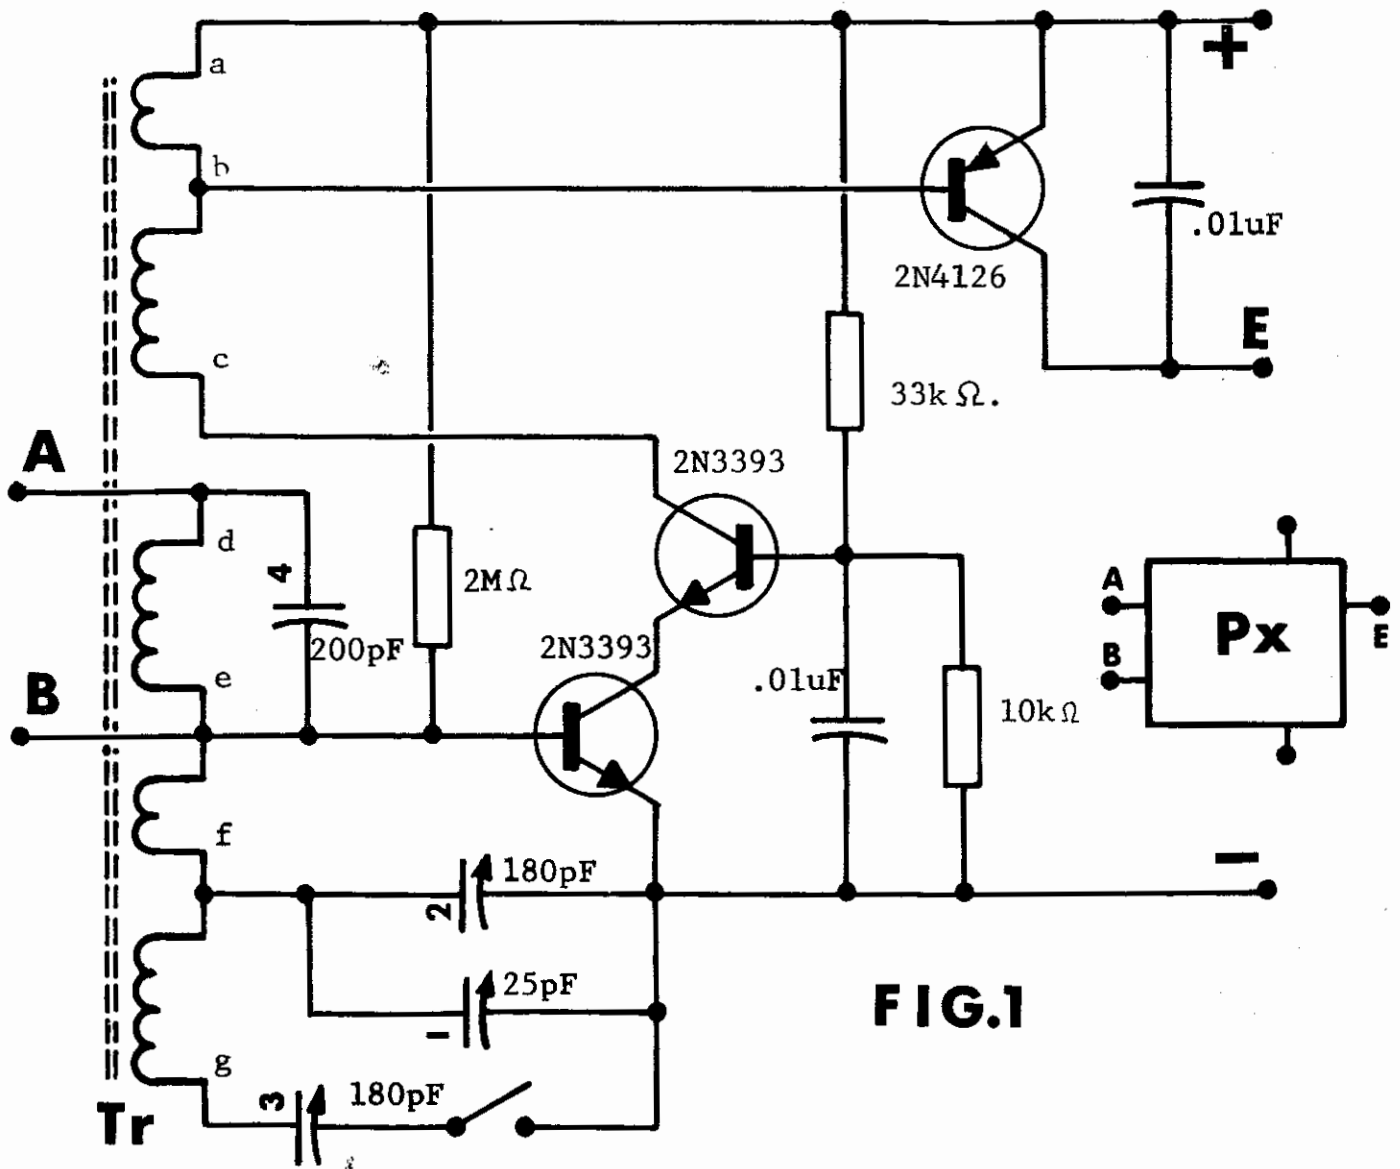

FIG. 1
Figure 1 shows the complete schematic diagram of the proximity switch and its block symbol (Px), which is used in the Appendix. Note that three padders form the capacity C1 shown in the block diagram. Padder 2 provides a coarse adjustment, padder 1 a fine adjustment. If the sensor wires are too long or are connected to a large metallic object, the combined capacity of padders 1 and 2 may not be large enough. In this case, another padder (3) can be connected into the circuit by a means of the switch (13). Because of its connection to the transformer, the capacity of this padder is virtually multiplied by a factor of 10, which should be sufficient for all cases.
If for any reason the proximity detector and the sensor must be separated by more than three feet, double shielded cable becomes a necessity. In cases where the cable length exceeds six feet, capacitor 4 (Figs. 1 and 3) should be removed to prevent loss of sensitivity.